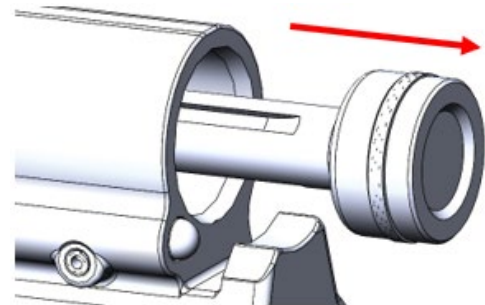

Figure 54: Removing the Gas Piston
2. Using a 5/16" punch or similar object, push the piston out the front of the gas block from the back. (Figure 54)